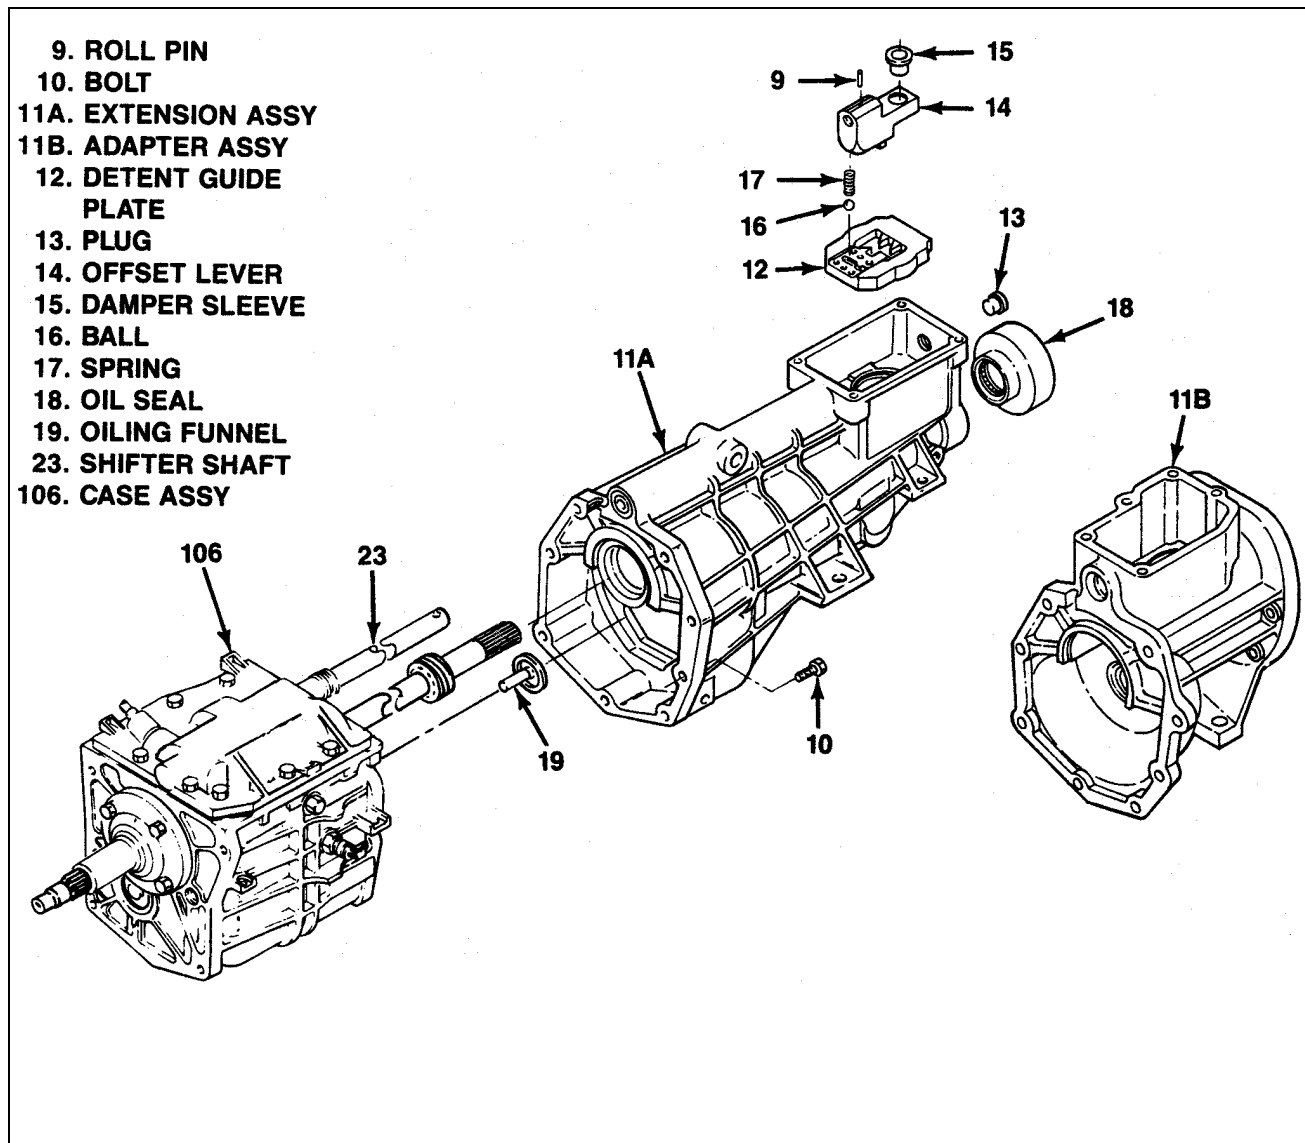

Figure 4-2. T5 STD Extension or Adapter
Failure to shift transmission into neutral at 3-4 position before removing control lever and housing assembly may result in driving roll pin (9, figure 4-2) into detent guide plate (18) when pin is removed (paragraph 4-8).
- c. Remove screws (2).
- d. If necessary, use suitable knife to break sealant bond between control lever and housing assembly (3A or 3B) and extension (11A) or adapter (11B). Remove control lever and housing assembly. Remove boot (4) only if replacement is required.
- f. If used, remove neutral switch (6), pin(7) and wire retainer (8).
4-8. REMOVAL OF T5 STD EXTENSION OR ADAPTER. With offset lever accessible and in neutral at 3-4 position (paragraph 4-7, step b), proceed as follows (see figure 4-2):